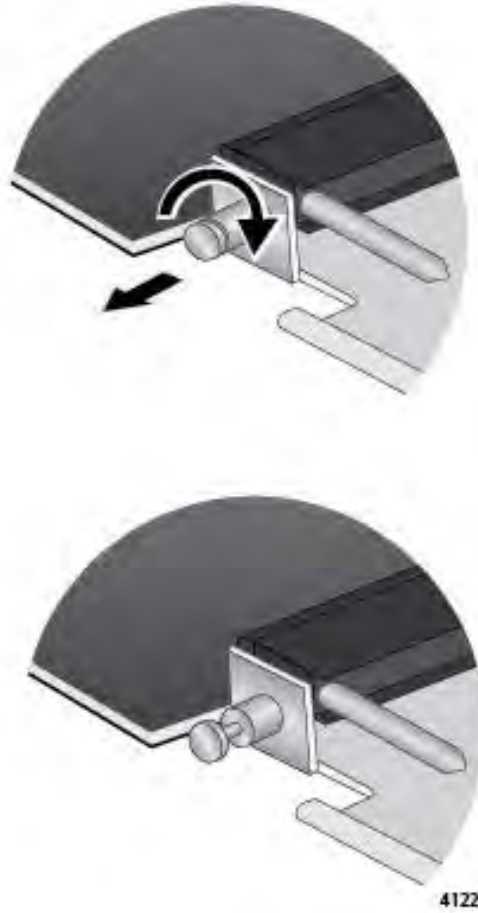

Figure 82. Retracting the Retaining Pin on the AT-SBx81XLEM Line Card
6. With your thumb and forefinger, pull out the retaining pin on the side of the line card and turn it clockwise one quarter turn so that it remains in the retracted position. Refer to Figure 82 on page 157.